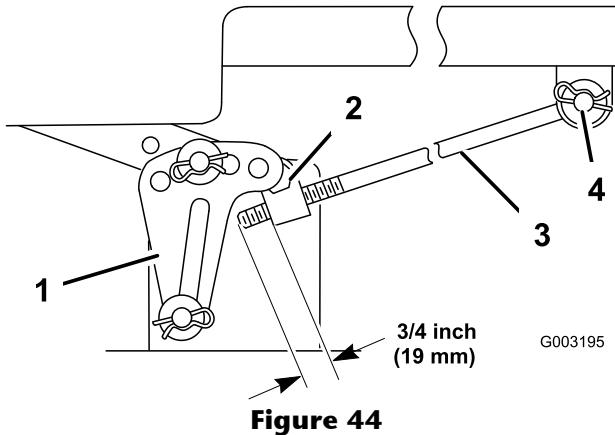

Figure 44
5. Measure the length of the rod extending out of the adjusting block on the sides of the chassis (Figure 44).
6. If the rod length is **not** a 3/4 inch (19 mm), remove the hairpin cotter and washer from the end of the adjusting rod (Figure 44) and turn the rod until the 3/4 inch (19 mm) dimension is obtained.